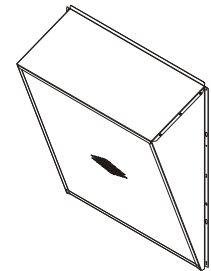

Figure 4
Position to Hail Guard Top Panel (A) so that clearance holes line up with side panels C&D take holes. Secure using supplied #10-16 x 1/2 Type A screws (6 places). See Figure 4.